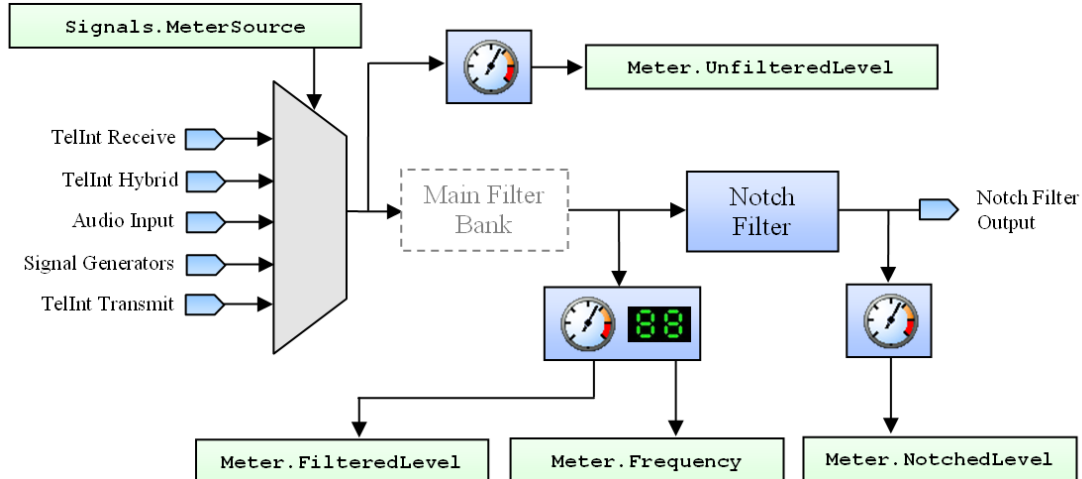

Figure 33 AI-5620 Meter Signal Routing Diagram
- **MeterSource** – this selects the internal signal which is routed to the meter for level and frequency analysis as illustrated in Figure 33. Please see section 17.7 for more information on the meter properties and signal configurations.
The AI-5620 instrument contains a signal meter which can be configured to perform filtering, level measurement, and frequency measurements on many signal sources available within the device. These features are implemented by the MeterManager class and are accessible through the Meter property of the AI560_TE_Simulator class. The AC signal routing within the meter is illustrated below in Figure 33.